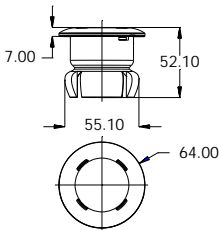

Figure 1
- 1) This underwater light is mounted to the wall in the 2" PVC pipe (Imperial 1/2", Metric 1.25Mpa), before installation, selecting a suitable PVC pipe. (Note: Due to a variety of different wall thickness PVC pipe, please refer to Figure 1 to choose appropriate size of tube)